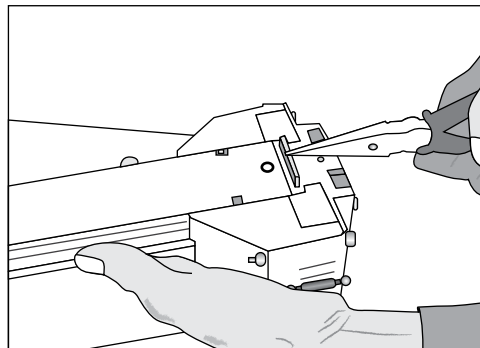

Figure 9
2. Insert needle nose pliers or screw driver to clear jam. (See Figure 9)